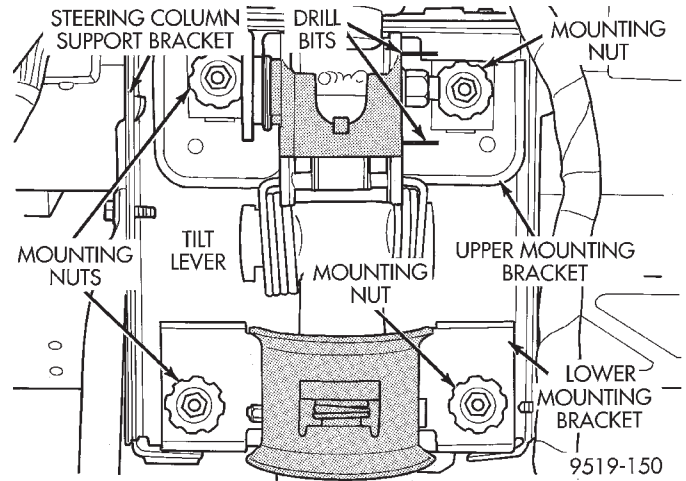
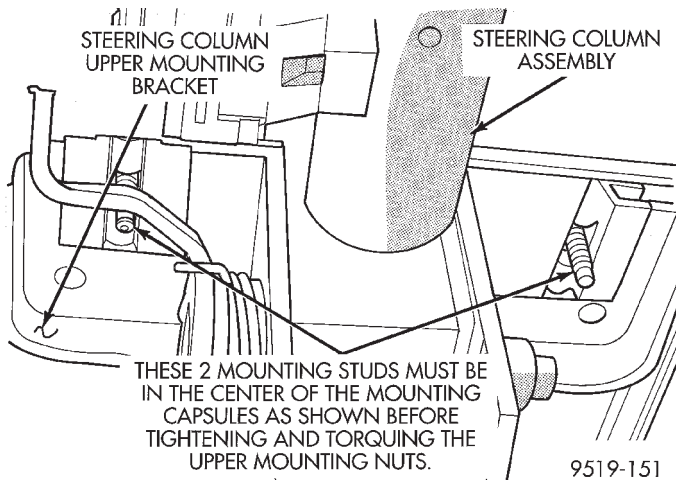

Fig. 22 Steering Column Upper And Lower Mounting Bracket Nuts
Fig. 23 Mounting Studs Correctly Positioned In Plastic Capsules
remove the 2 lower steering column assembly mounting bracket to support bracket nuts (Fig. 22).
(1) Install steering column on the studs in the steering column support bracket. Loosely install the 4 steering column assembly attaching nuts.
(2) Tighten the 2 lower steering column assembly mounting nuts (Fig. 22) to hold the steering column in place. Be sure both breakaway capsules are still fully seated in the slots of the upper steering column mounting bracket and the mounting studs are centered for and aft in the plastic capsules (Fig. 23). Then equally tighten both steering column upper mounting nuts, (Fig. 22) until upper steering column mounting bracket is seated against support bracket. Tighten the 4 steering column bracket to support bracket nuts to 12 N·m (105 in. lbs.).